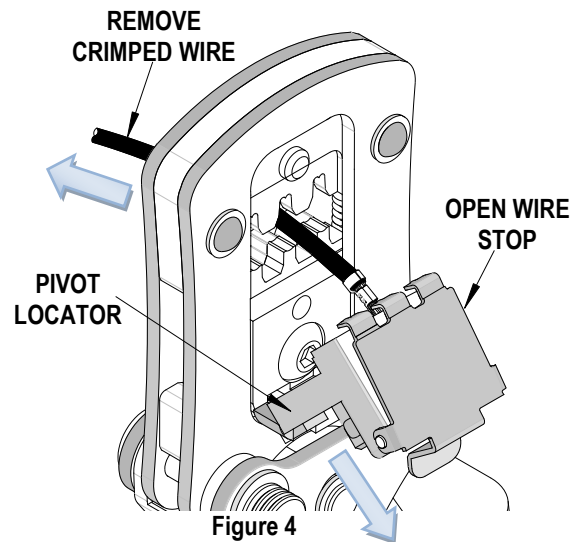

Figure 4
- Before removing the crimped wire, pivot the terminal locator out. See Figure 4.